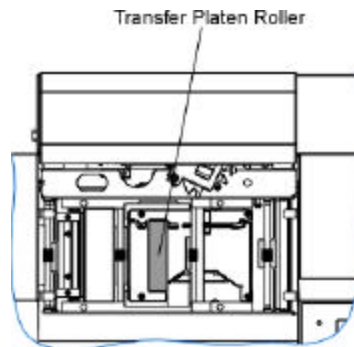

Figure 3-21
5. Locate the Transfer Platen Roller. See Figure 3-21.